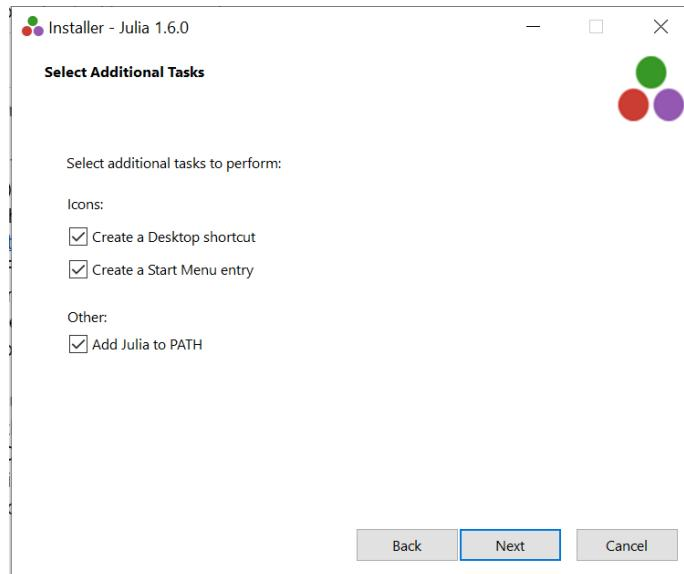

Figure 3.28: Installing Julia 1.6.0 on Windows
2. Locate the executable file. Right-click on it and hit Run as administrator to begin the installation. After selecting the Installation Directory, a window named Select Additional Tasks appears as shown in Fig. 3.28. In this window, check the box which says, Add Julia to PATH and click on Next to continue the installation.